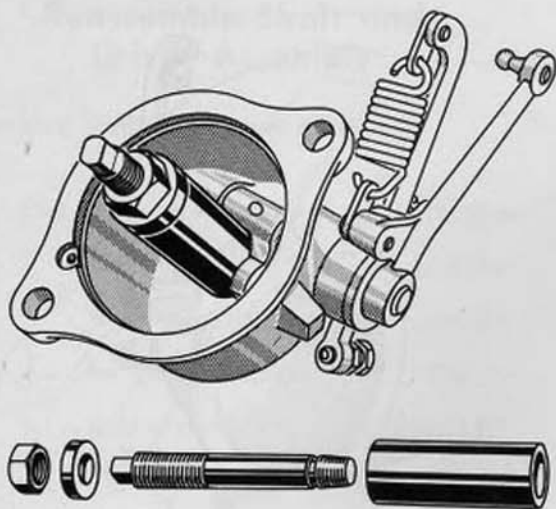

FIG. 8
- (a) To remove the governor bushing. Disassemble the bushing removal tool. Screw the taper threaded end of the forcing screw into the bushing until it is tight as shown in Fig. 8. Install the tube, thrust washer and the nut. Tighten the